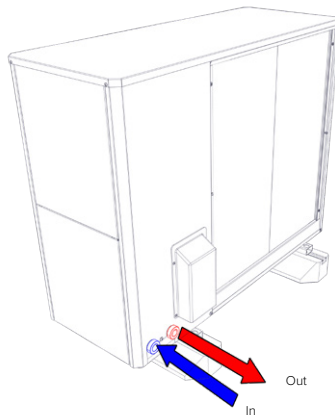

Fig. 26. Heat pump supply and return connections.
- 2) Connect the water return and supply of the heat pump as presented in Fig 26.